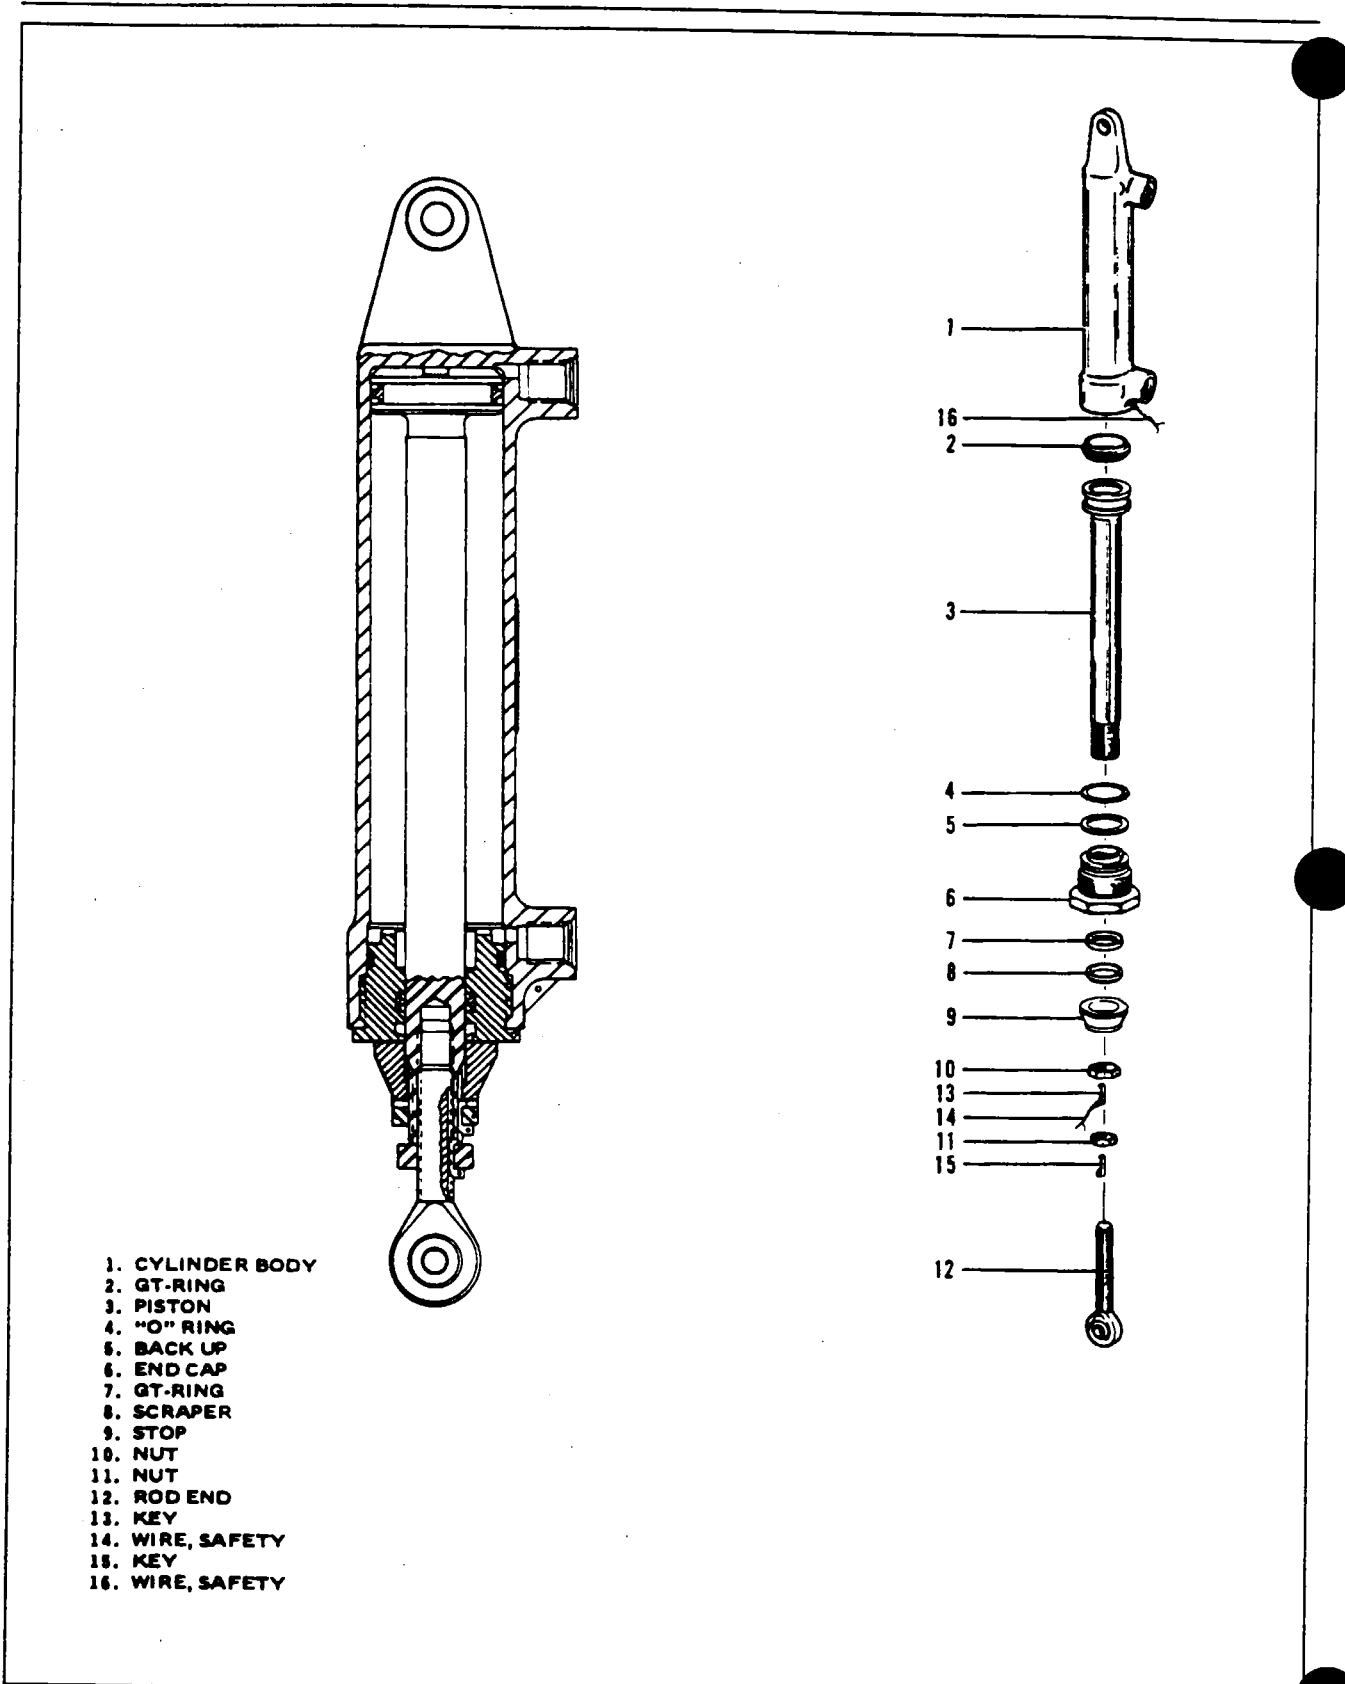

Figure 6-22. Gear Actuating Cylinder (Wiebel Tool)
- Install the rod end (13), locknut (11) and lock (12) on the piston rod.
- Adjust rod end (13) to preliminary length obtained before disassembly. Before securing the locknuts of the stroke control stop and rod end with MS20995C32 lock wire, ascertain that the stroke control stop and rod end fitting are properly adjusted. (Refer to Adjustment of Nose Landing Gear, Section VII.)
- 6-135. DISASSEMBLY OF GEAR ACTUATING CYLINDER. (Refer to Figure 6-22.)
- Loosen nut (11) to disengage Key (15) and remove rod end (12).
- Cut safety wire (14) and remove. Remove nut (10), Key (13) and stop (9) from piston (3).
6-137. ASSEMBLY OF GEAR ACTUATING CYLINDER. (Refer to Figure 6-22.) Lubricate all parts with oil per MIL-H-5606 prior to assembly.